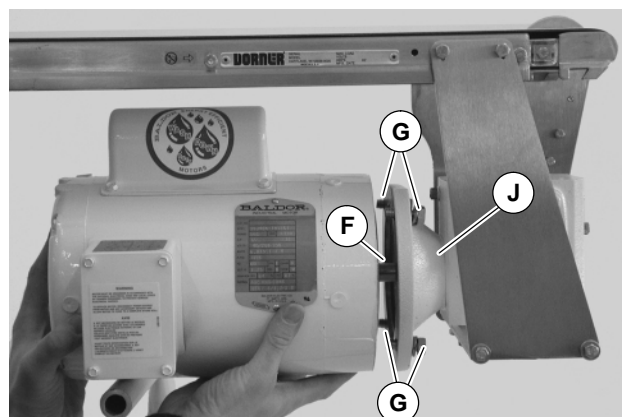

Figure 36
5. With key (F of Figure 36) in keyway, slide new gear motor and gear reducer (J) together. Install screws and washers (G) and tighten.